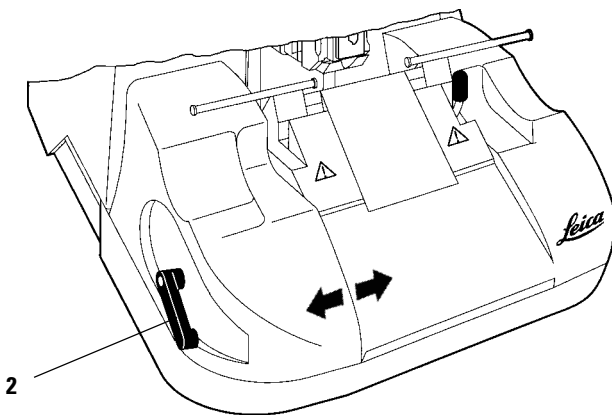

Fig. 61.2
- Attach the non-orienting fixture (11) to the specimen cylinder as shown in Fig. 61.2 and secure with the four corresponding screws (12) (use no. 4 Allen key).
- Attach the dovetail adapter (2) and tighten the four screws (1) with a no. 3 Allen key.